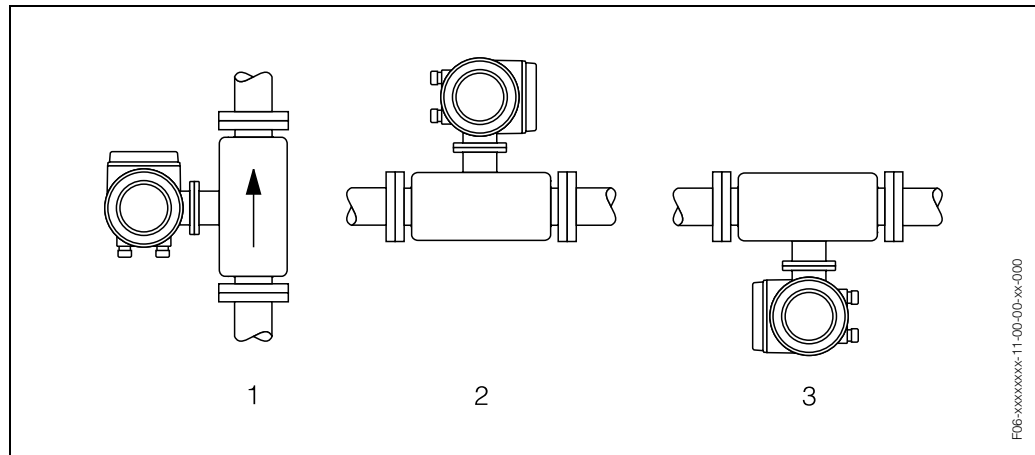

Fig. 6: Orientation Promass E
- Vertical piping: installation in accordance with Fig. 6 / View 1
- Horizontal piping: installation in accordance with Fig. 6 / View 3
- Horizontal piping: installation in accordance with Fig. 6 / View 2